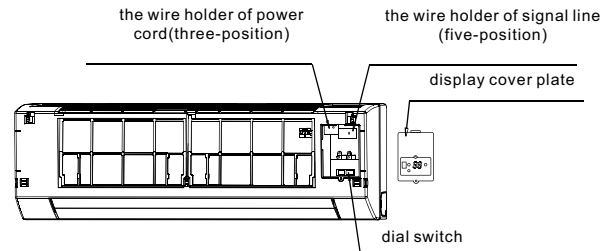

Fig.7-2
- Individual connect the power cord and signal line, adjust the dial switch. (Refer to Fig 7-2)